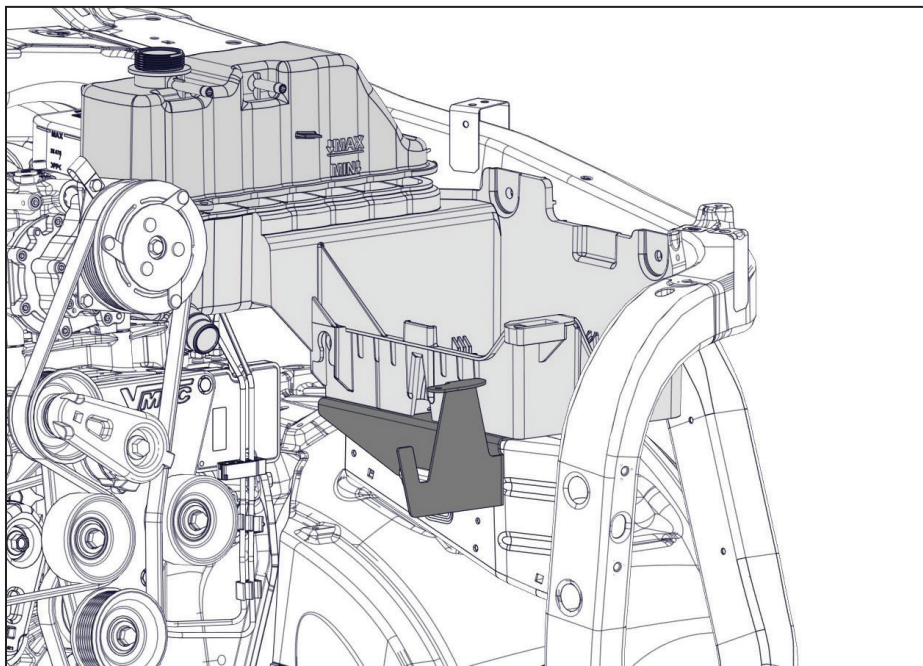

Figure 62 — Power steering / battery post relocation brackets
- ☐ Set the OEM degas bottle and battery box assembly in position in the engine bay (Figure 62).